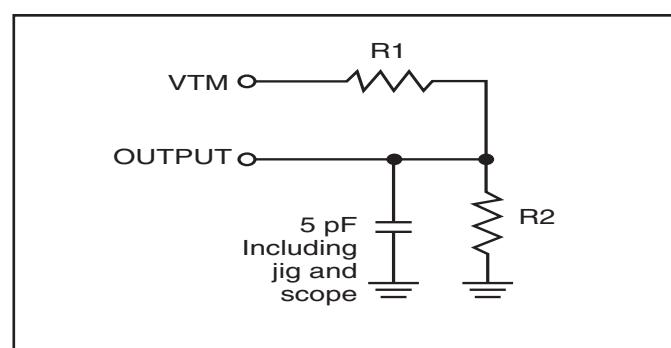

Figure 2.
2. Tested with the load in Figure 2. Transition is measured ± 500 mV from steady-state voltage.
2. Tested with the load in Figure 2. Transition is measured ±500 mV from steady-state voltage. Not 100% tested.